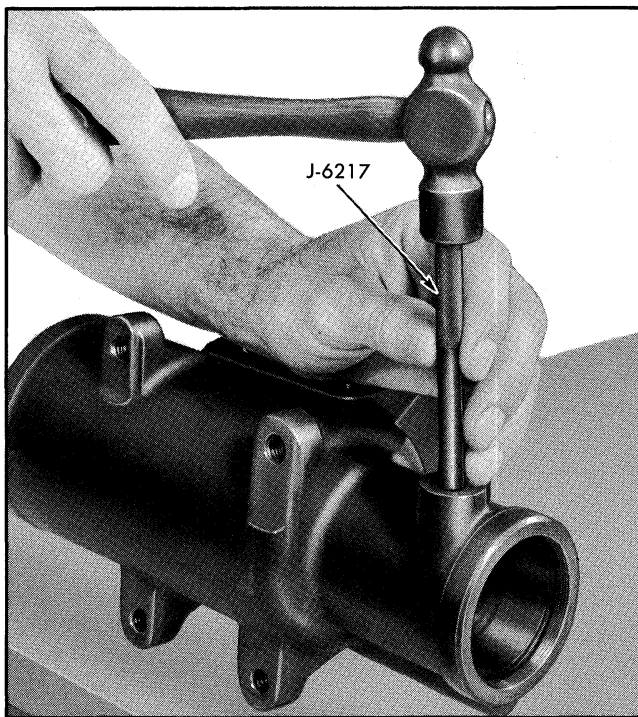

Fig. 9A-25 Installing Connector Using J-6217
2. Insert worm into rack-piston nut to bearing shoulder (Fig. 9A-26).